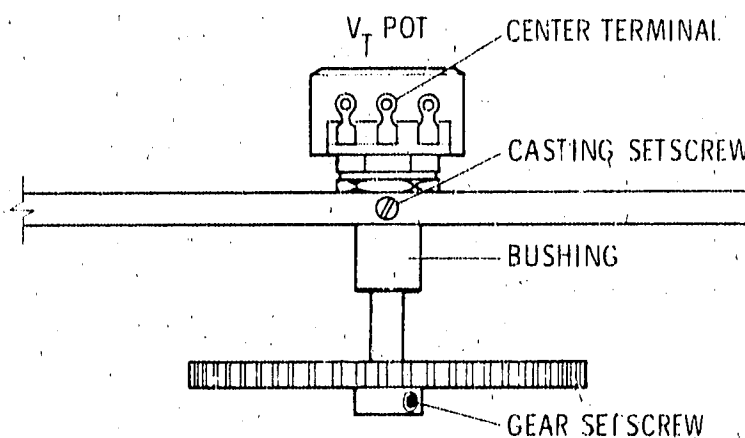

Figure 5-2. V_T Pot Adjustment
3. Install pot with gear in casting so that center terminal (934 wire) is in line with casting setscrew (see Figure 5-2).